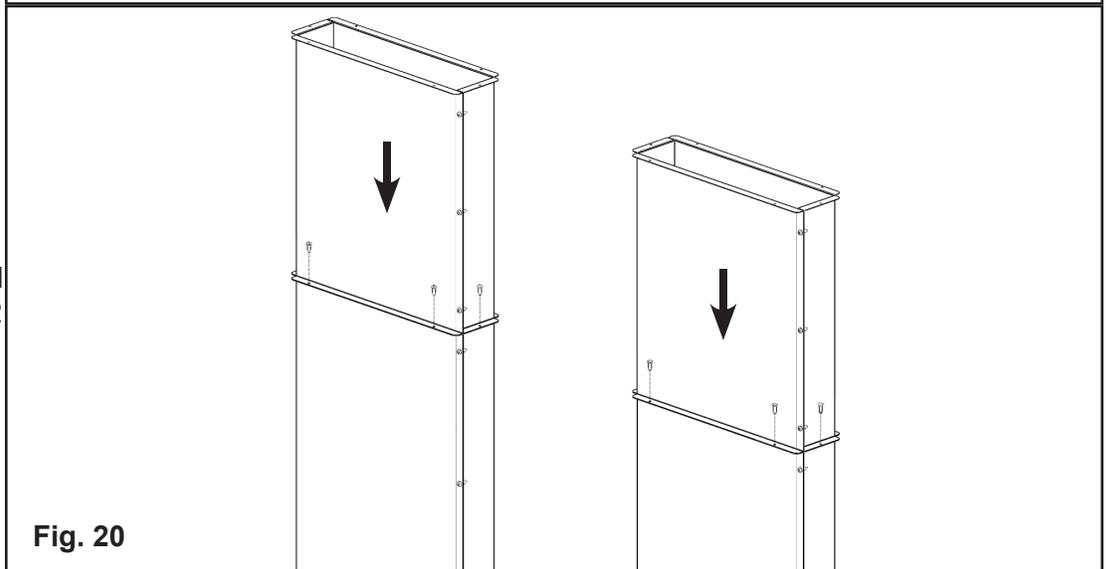

Fig. 20
6. Screw the extension duct assemblies to the appliance plenum ducts using screws supplied with the kit (12 screws). (**Fig. 20**)